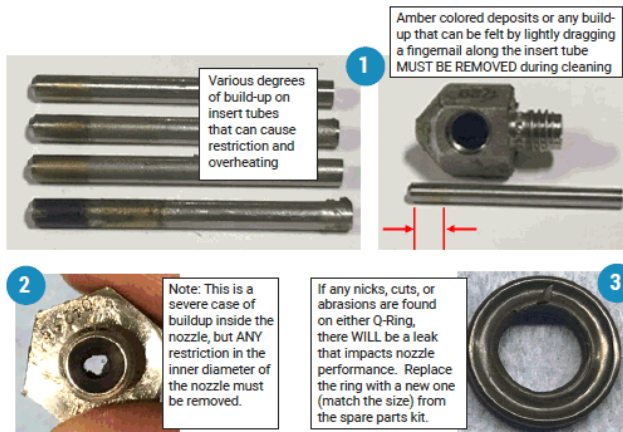

Figure 14: Inspect
1. Inspect for build-up on insert tube: (See Figure 14)